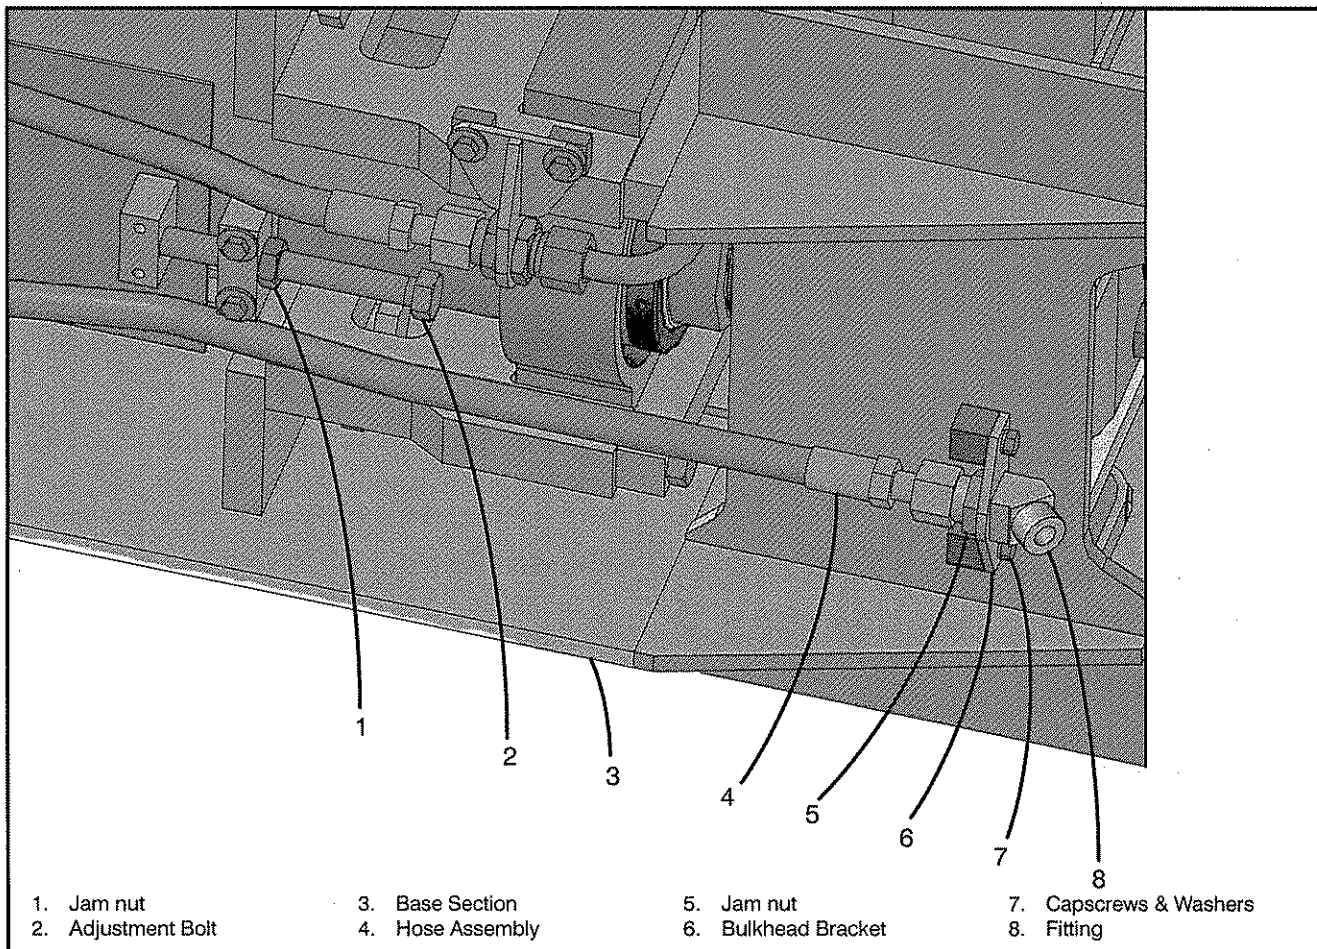

Figure 3-14
The boom telescope system utilizes a hose loop to keep tension on the telescope hose inside the boom to keep the hose from entangling inside the boom while extending and retracting the boom. Refer to Figure 3-14. Visually inspect the hose each 100 hours of operation to ensure it is tight. If the hose is loose, adjust it per the following;
10. Disconnect the hose from the outer fitting which is mounted on the bulkhead bracket inside the boom at the rear of the base section. Refer to Figure 3-14.